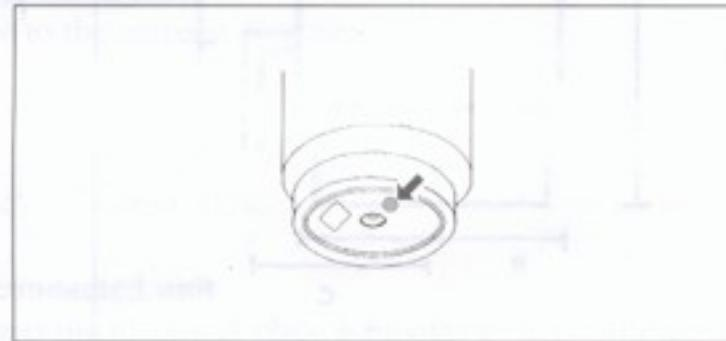

Fig. 3
- 5) Push the red reset disposer bottom (see fig. 3) and restart the machine.